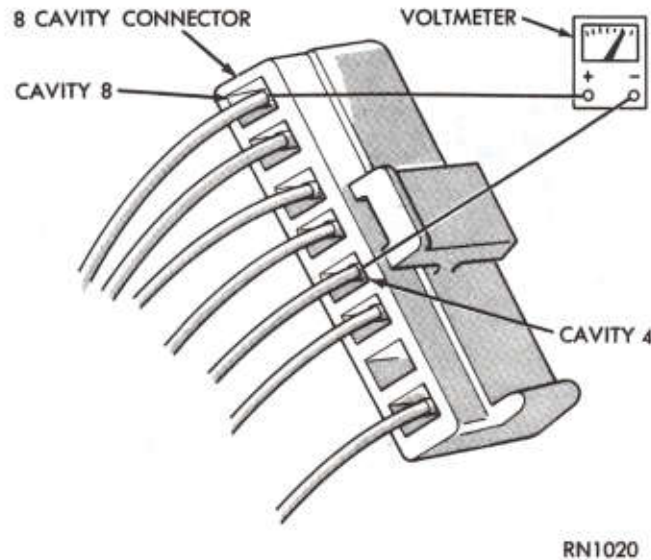

Fig. 5—Voltmeter Connected to Cavities 4 and 8
(3) Connect voltmeter between cavity 4 and 8 (Fig. 5).
(4) If voltmeter reads zero, check switch and wiring.
(5) If voltmeter reads 10 to 15 volts, the control unit is faulty and should be replaced.